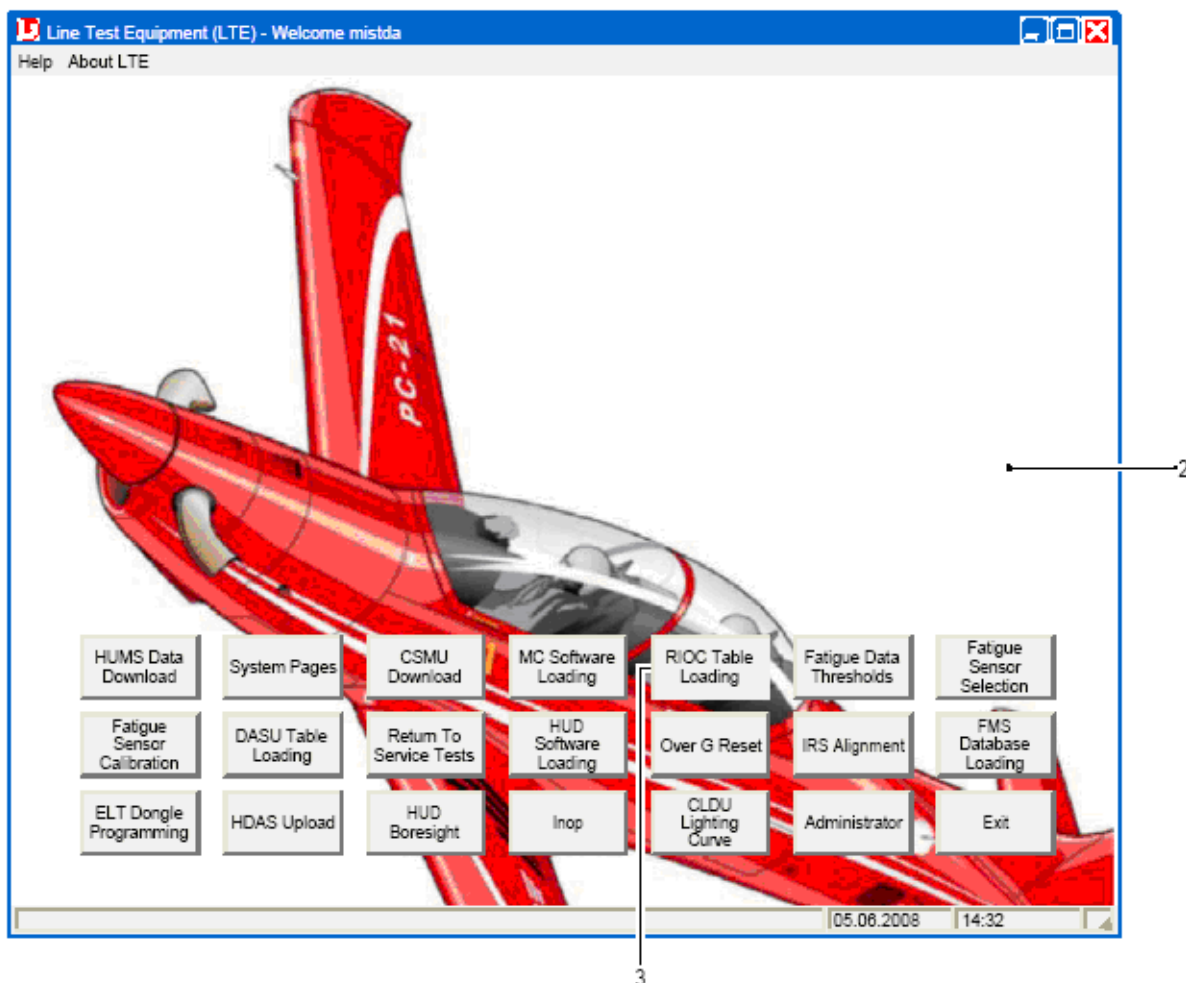

Figure 1
- (1) Power up the notebook.
- (2) Put the LTE Configuration Files CD in the CD drive of the notebook.
- (3) Double click the LTE icon (Ref. Fig 1, Item 1) to start the LTE software.
- (4) Select the RIOCI Table Loading button (Ref. Fig 1, Item 3).
- (5) Click on the Yes button on the Utility Launch pop up box.
- (6) When prompted, select the aircraft tail number from the drop down menu, then click OK.